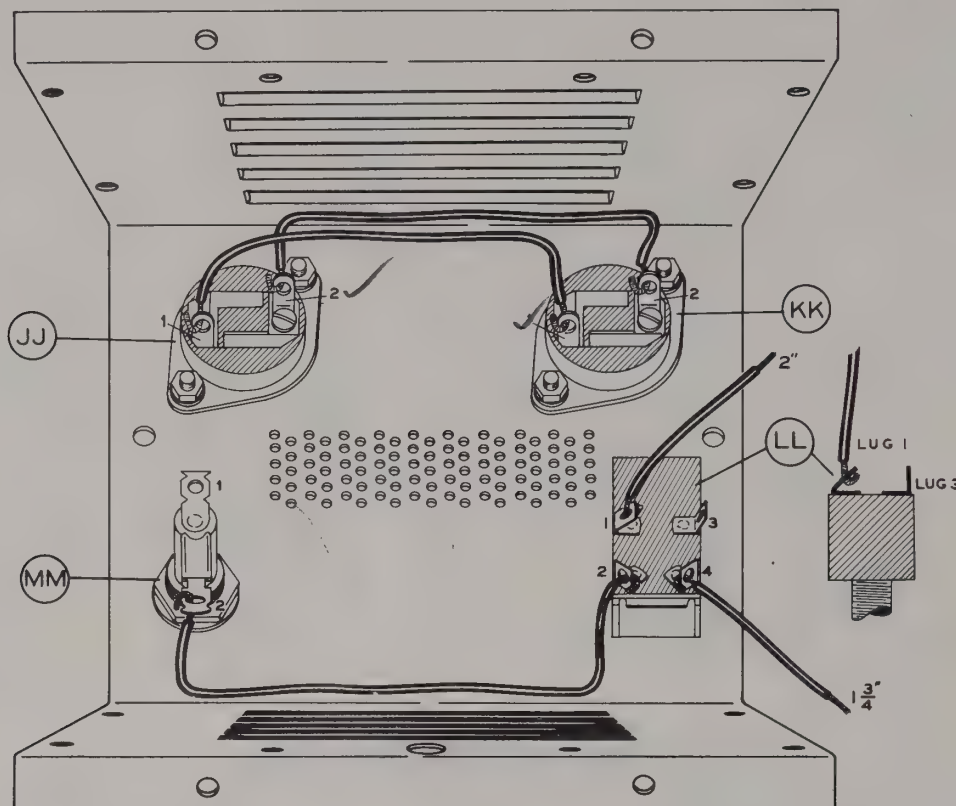

Figure 4
Refer to Figure 4 for the following steps.
- (✓) Connect a 5-1/2" wire from lug 2 of socket JJ (S-1) to lug 2 of socket KK (NS). Dress the wire along the corner of the chassis.
- (✓) Connect a 5-1/2" wire from lug 1 of socket KK (S-1) to lug 1 of socket JJ (NS). Dress as shown.
- (✓) Connect a 2" wire to lug 1 of switch LL (S-1). Bend lug 1 and make the connection as shown in the Detail next to Figure 4.